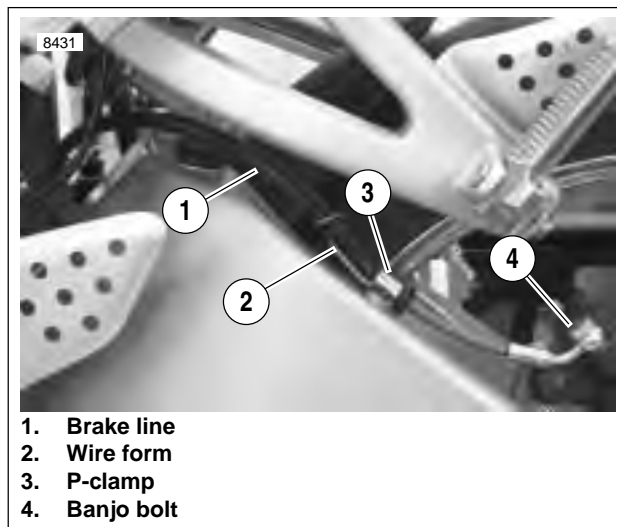

Figure 2-52. Rear Brake Line
6. See Figure 2-52. Remove p-clamp (3) and wire form (2) securing brake line (1) to the left side of swingarm.
3. See Figure 2-52. Secure brake line (1) to left side of swingarm with p-clamp (3), wire form (2), and tighten to 36-60 **in-lbs** (4-7 Nm). See D.1 HOSE AND WIRE ROUTING for brake line routing.